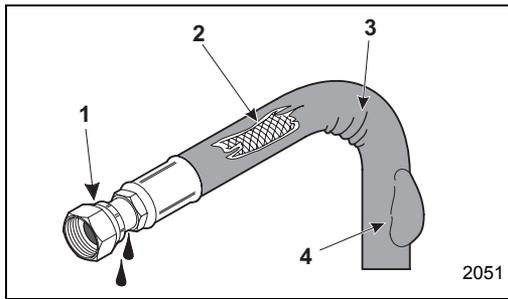

Figure 3–3 Hydraulic Hose Damage
- Some examples of common hydraulic hose damage are shown in Figure 3–3.